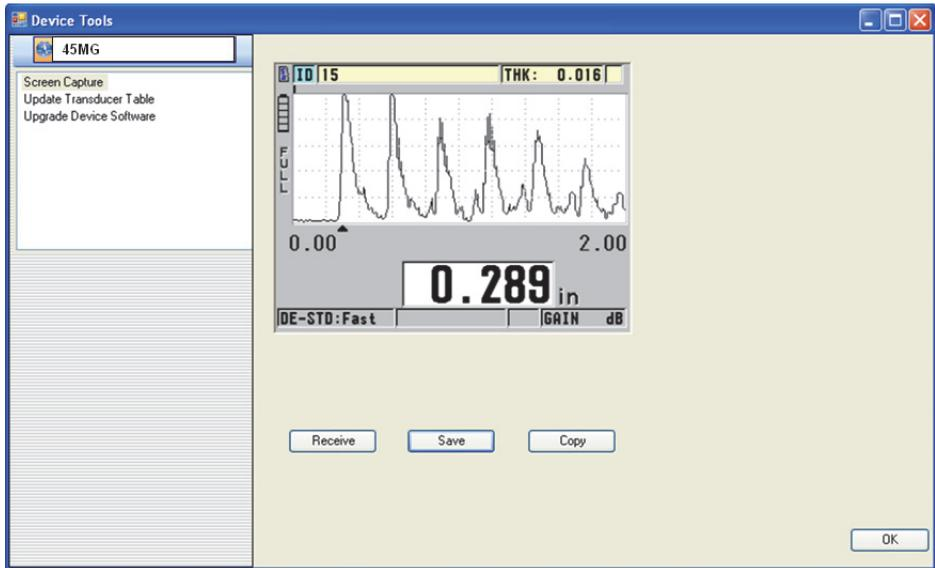

Figure 11-5 The Device Tools dialog box with a screen capture
- b) In the **Device Tools** dialog box (see Figure 11-5 on page 189), select **Screen Capture**, and then click **Receive**.